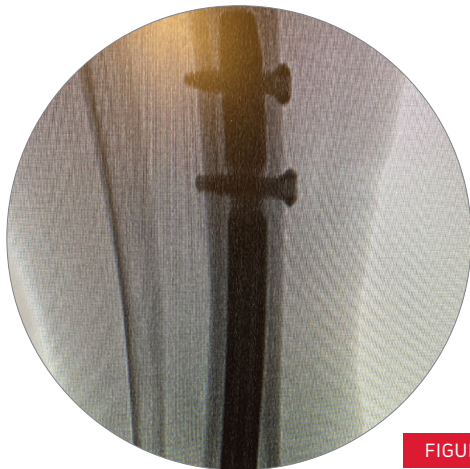
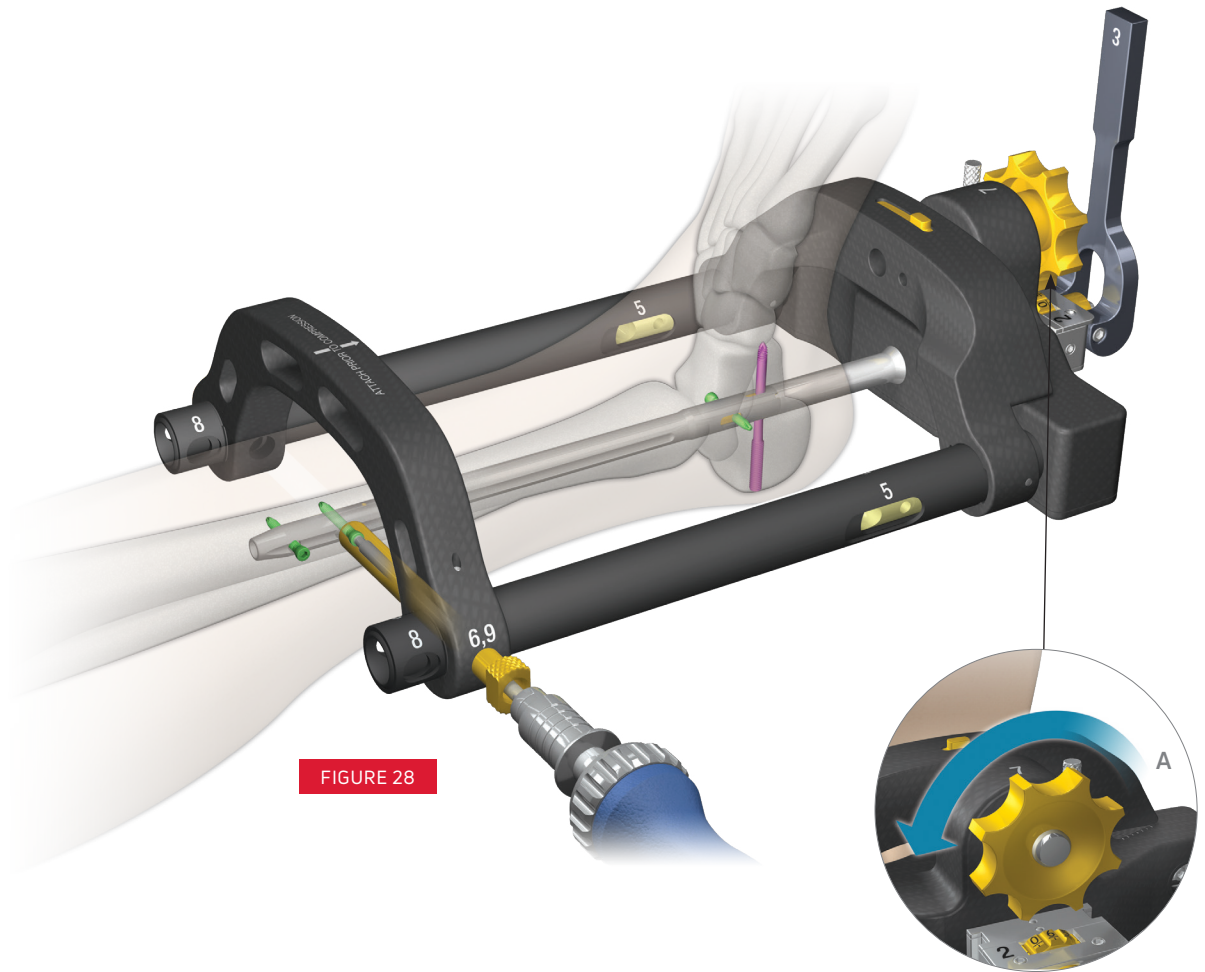

FIGURE 29
FIGURE 28
1. 3.5 mm Hex Driver (16)
2. Blue-Handle Ratchet Driver (36)
Relieve the compression on the 4 mm Drill by turning the Manual Compression Knob back counterclockwise until it rotates freely (A), but do not force the wheel back until it reads zero. Remove the 4 mm Drill. Determine the appropriate screw length and insert the Cortical Screw as described in Step 11 (FIGURE 28). Confirm screw placement, anatomic alignment, and apposition of fusion surfaces under fluoroscopy prior to removing DynaFrame™ Assembly (FIGURE 29).